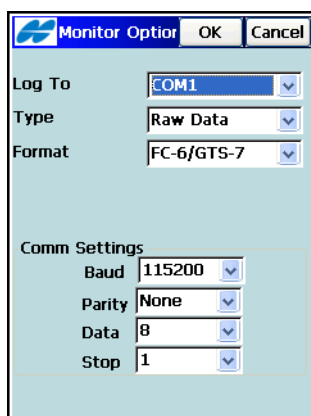

Figure 3-56. Monitor Options - COM1 Port selected
- *Comm Settings* – sets the communication parameters for the port (Figure 3-56 on page 3-56).